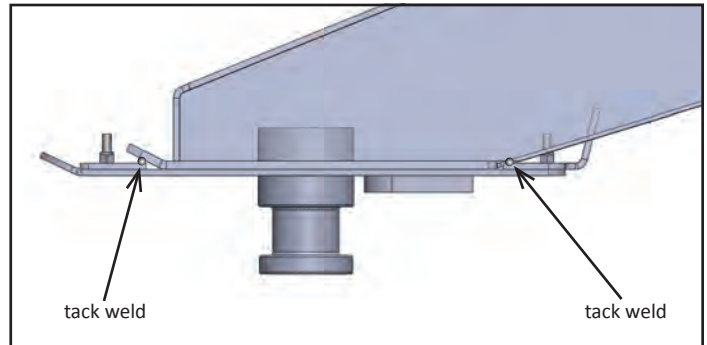

Figure 5
9. Tack weld where the front extension plate meets the bend of your king pin plate in the front, making certain that the alignment is square allowing the Universal Capture Plate to be flush with the bottom of the king pin plate (see Figure 5).